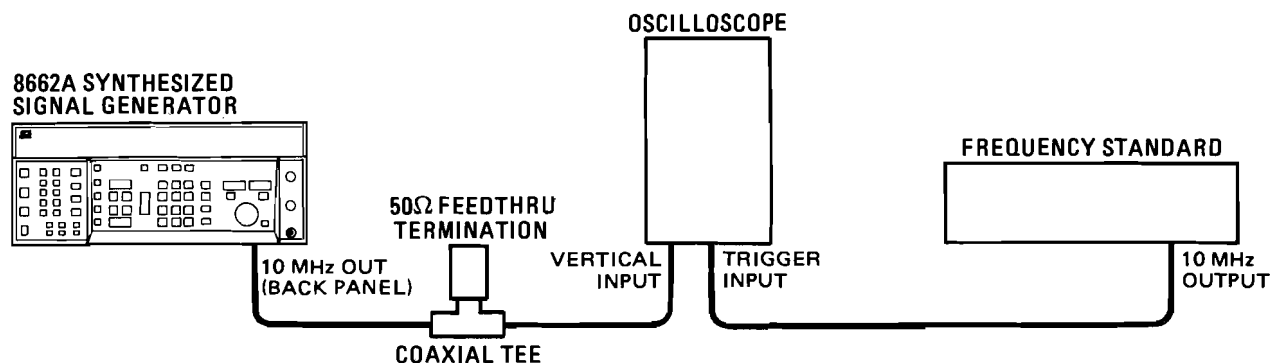

Figure 5-2. 10 MHz Reference Oscillator Adjustment Setup
3. Now, connect the equipment as shown in Figure 5-2.